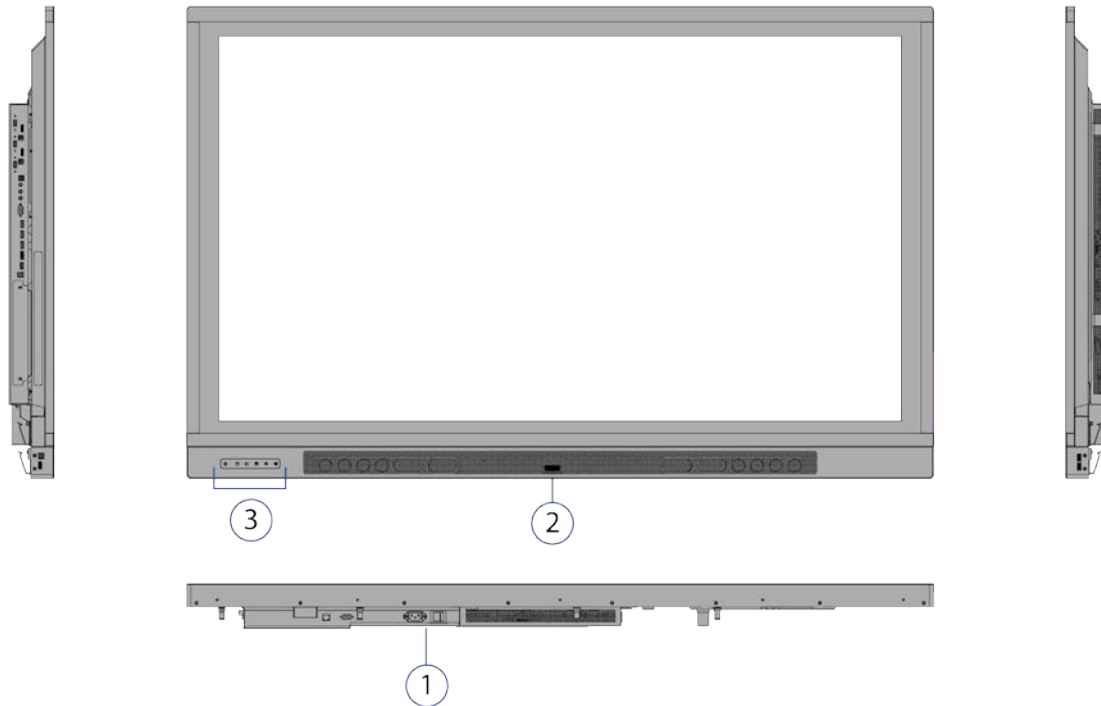

Figure 2-1. Display Front/ Side /Rear View
- Figure 2-1. Display Rear/ Side / Front View 18
Figure 2-1 shows the key display components, and the paragraphs that follow describe them.